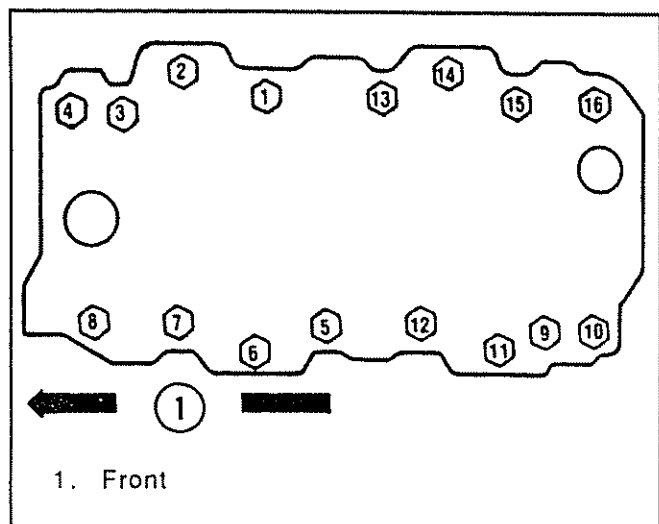

Fig. 8-117 Intake Manifold Torque Sequence
3. Carefully install the manifold assembly, and torque bolts to specifications in sequence indicated in Figure 8-117.